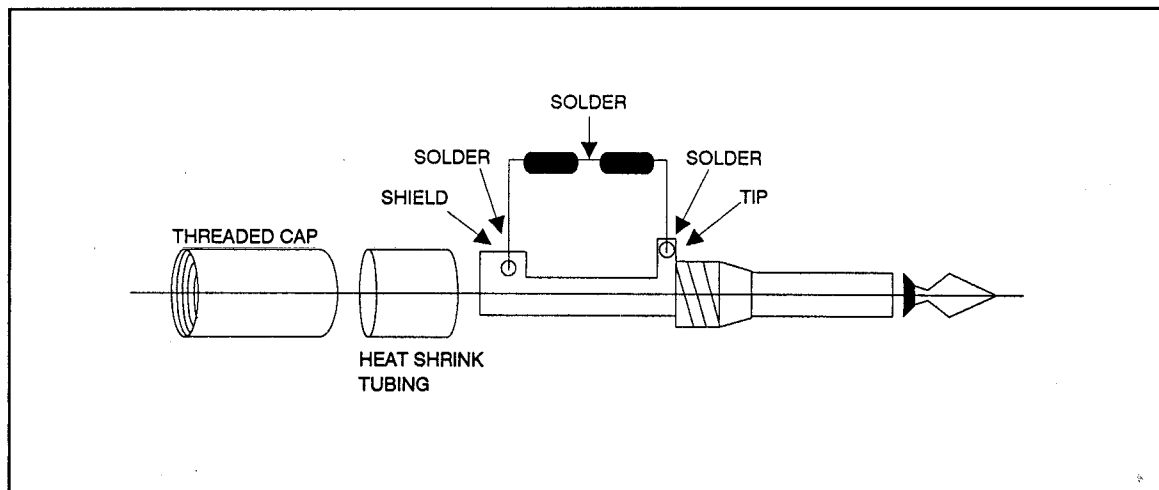

Figure E-2. Temperature Simulator Test Plug Assembly
2. Install the heat shrink tubing insulation on the resistor/plug assembly, and reinstall the plug case to complete simulator assembly. Refer to Figure E-2.